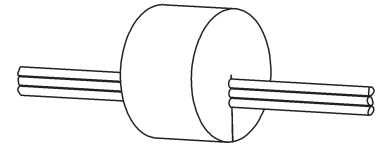

Fig. 9:
- **Conduit** – Included with the VOC transmitter is a foam plug to seal the ½ inch EMT. Place the wires into the plug as shown in Fig. 9 and then insert the plug into the conduit sealing the conduit.